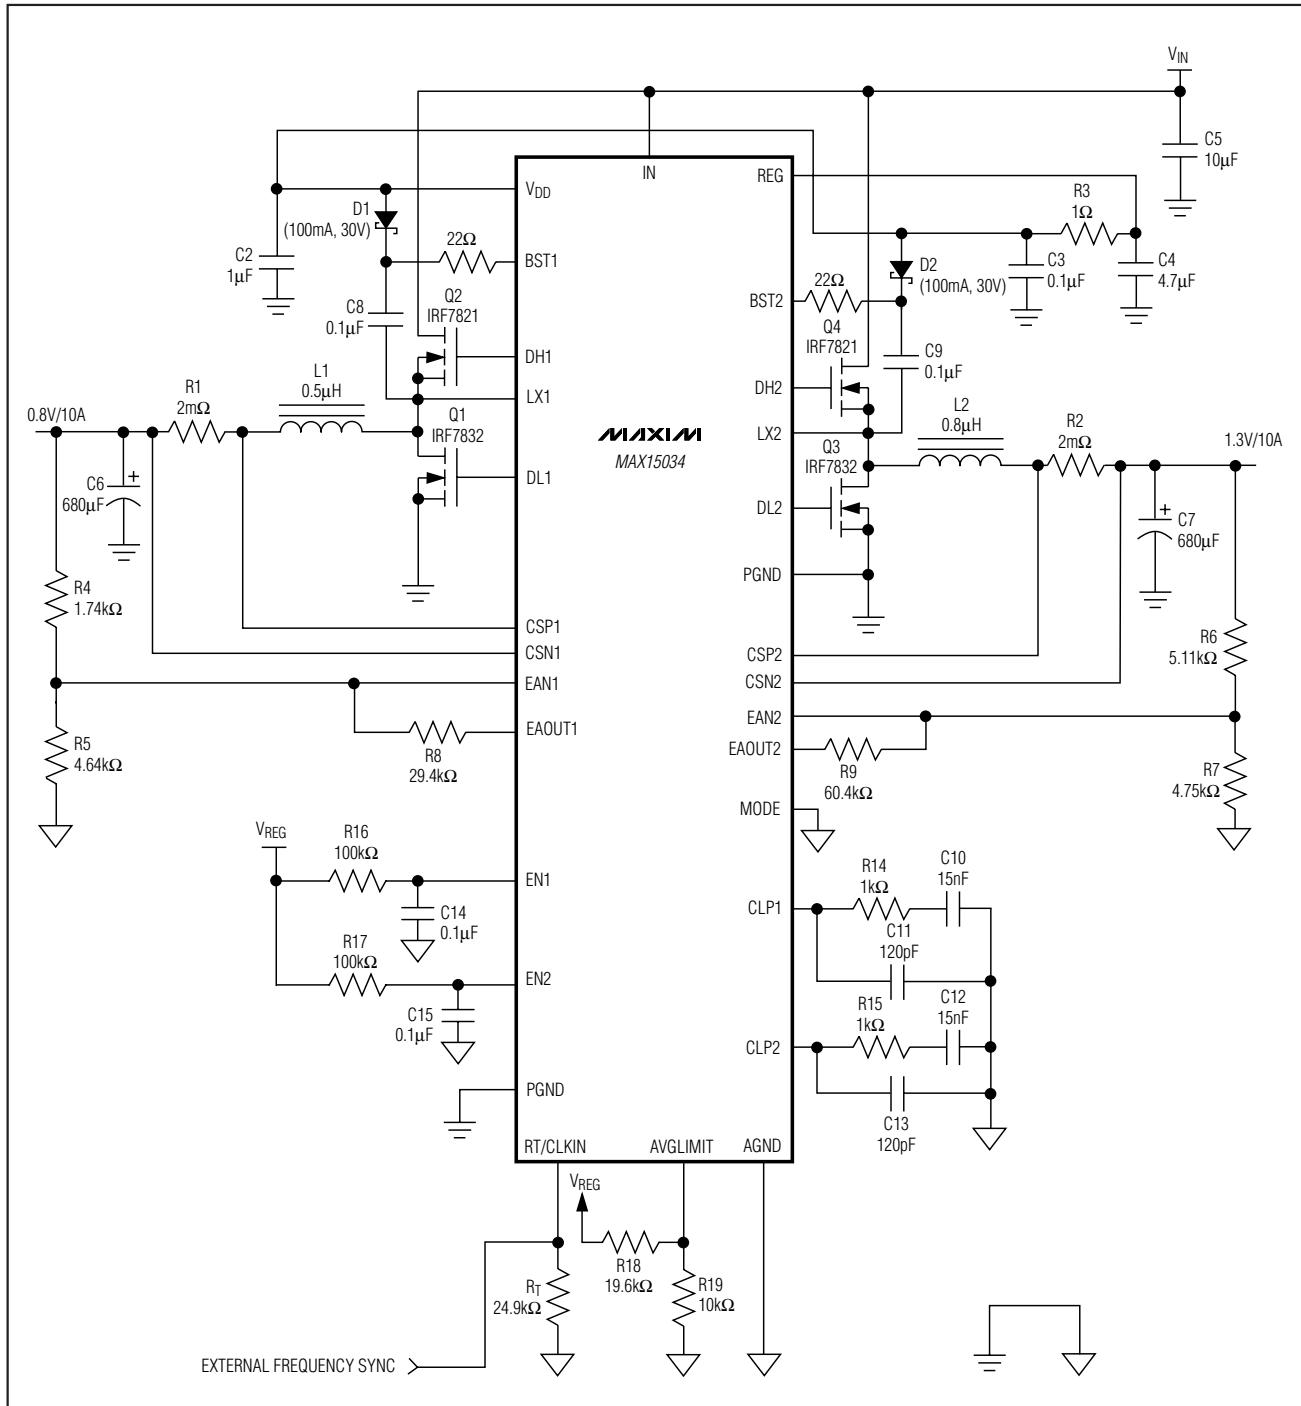
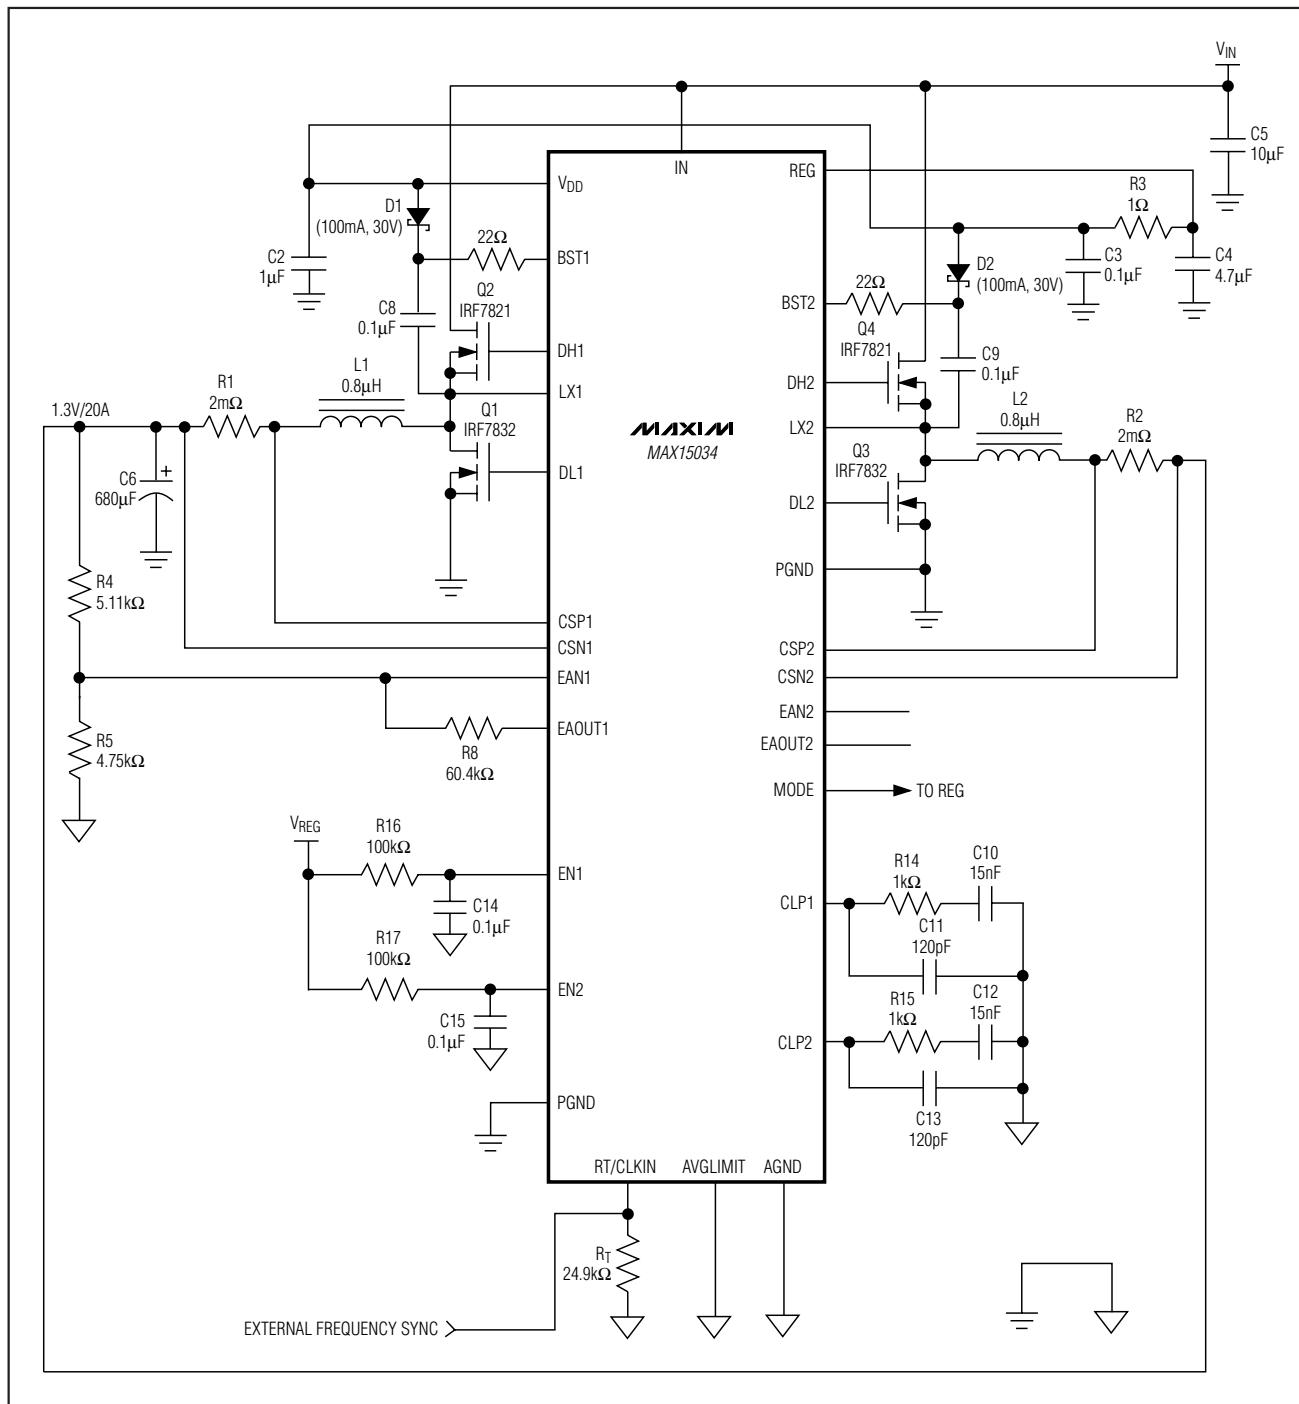

Figure 6. Dual-Output Buck Regulator
Figure 7. Dual-Phase, Single-Output Buck Regulator
where I_{IN} is the quiescent supply current into IN (4mA, typ), Q_{GQ1} , Q_{GQ2} , Q_{GQ3} , Q_{GQ4} are the total gate charges of MOSFETs Q1 through Q4 at $V_{GS} = 5V$ (see Figure 6), and f_{SW} is the switching frequency of each individual phase.
BST1 and BST2 supply the power for the high-side MOSFET drivers for output 1 and output 2, respectively. Connect BST1 and BST2 to VDD through rectifier diodes D1 and D2 (see Figure 6). Connect a 0.1μF ceramic capacitor between BST_ and LX_.
Minimize the trace inductance from BST_ and VDD to the rectifier diodes, D1 and D2, and from BST_ and LX_ to the boost capacitors, C8 and C9 (see Figure 6). This is accomplished by using short, wide trace lengths.
The compensation network at the current-error amplifiers (CLP1 and CLP2) provides an inherent soft-start of the output voltage. It includes (R14 and C10) in parallel with C11 at CLP1 and (R15 and C12) in parallel with C13 at CLP2 (see Figure 6). The voltage at the current-error amplifier output limits the maximum current available to charge the output capacitors. The capacitor at CLP_ in conjunction with the finite output-drive current of the current-error amplifier yields a finite rise time for the output current and thus, the output voltage.
An internal oscillator generates the 180° out-of-phase clock signals required for both PWM modulators. The oscillator also generates the 2Vp-p voltage ramps necessary for the PWM comparators. The oscillator frequency can be set from 200kHz to 2MHz by an external resistor (RT) connected from RT/CLKIN to AGND (see Figure 6). The equation below shows the relationship between RT and the switching frequency:
cycle is less than 50%, choose high-side MOSFETs (Q2 and Q4, Figure 6) with a moderate R_{DS(ON)} and a very low gate charge. Choose low-side MOSFETs (Q1 and Q3, Figure 6) with very low R_{DS(ON)} and moderate gate charge. The driver block also includes a logic circuit that provides an adaptive nonoverlap time (30ns typ) to prevent shoot-through currents during transition. Figure 7 shows the dual-phase, single-output buck regulator.
where I_{MAX} is the full load current of the regulator. V_{OUT} is the output voltage of the same regulator and C_{IN} is C_5 in Figure 6. The ESR of the input capacitors wastes power from the input and heats up the capacitor. Reducing the ESR is important to maintain a high overall efficiency and in reducing the heating of the capacitors.
where I_{LOAD_STEP} is the step in load current and $t_{RESPONSE}$ is the response time of the controller. Controller response time depends on the control-loop bandwidth. C_{OUT} is C_6 and C_7 in Figure 6.
where ΔV_{OUT} is the allowable drop in voltage from no load to full load. R_F is R_8 and R_9 , R_1 is R_4 and R_6 , R_2 is R_5 and R_7 in Figure 6.